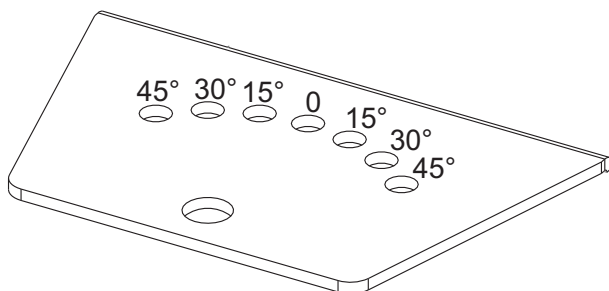

Figure 2.4: Angle Degrees
4. Position the **loudspeaker** for the desired angle. (See Figure 2.4.)
5. Position the **loudspeaker** for the desired angle. (See Figure 2.4.)
6. Insert and tighten the two (2) **screws** (supplied) sufficiently so that the loudspeaker does not inadvertently rotate.
6. Position the **loudspeaker** for the desired angle. (See Figure 2.4.)